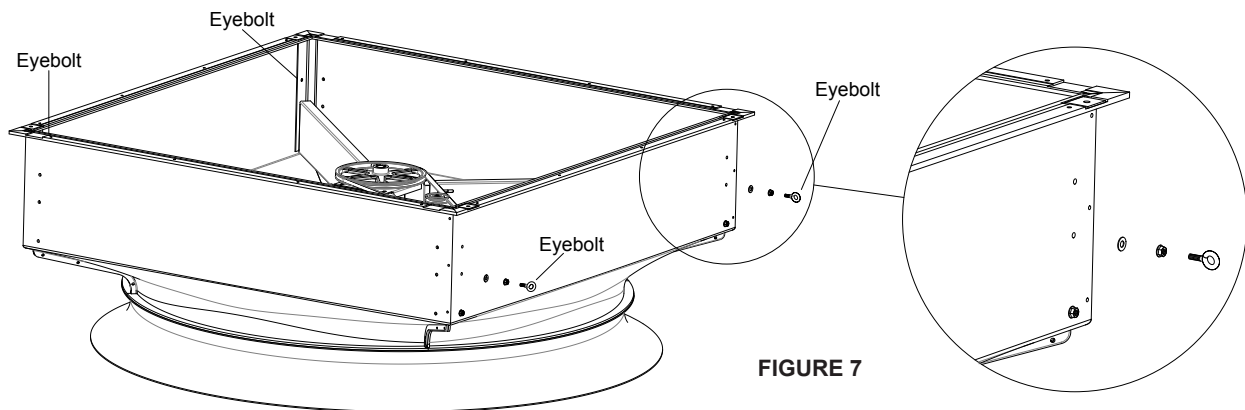

FIGURE 7
2. Place a provided 3/8" eyebolt through each newly vacant hole and attach the eyebolt to the orifice using two Wiz Lock nuts and one washer provided, as shown in Figure 7.